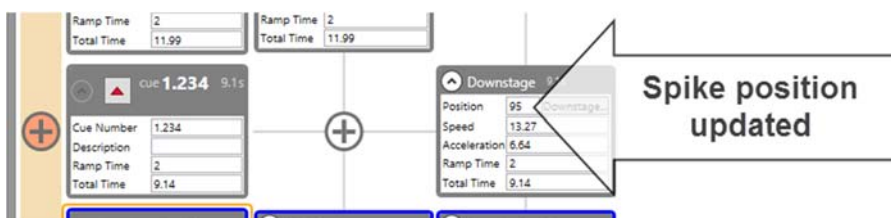

Figure 60
4. Notice that the position for the *Turntable* in *Cue 1.234* has been updated to reflect the new **Spike** value (Figure 60). If we had multiple cues referencing the *Downstage Spike*, all of them would be updated automatically.